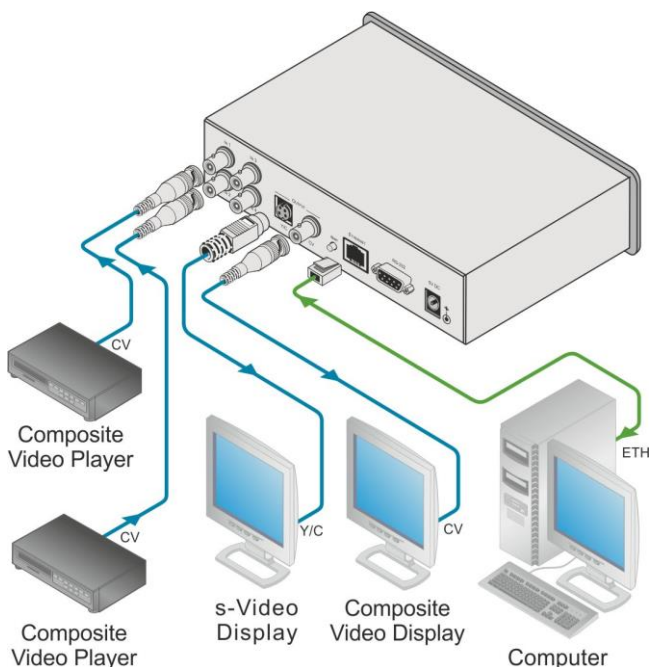

Figure 3: Connecting the PIP-4, 4 input Picture-in-Picture Inserter
To connect¹ the PIP-4 as illustrated in the example in Figure 3:
6. Connect the supplied power adapter to the unit and to the mains supply (not shown in Figure 3).